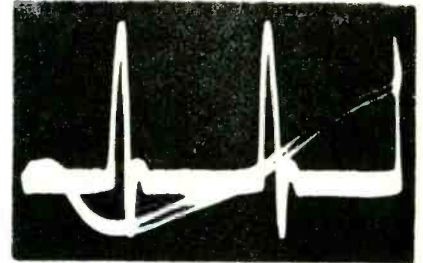

Fig. 8—Presence of spurious voltages thickens horizontal trace.
A. This situation, illustrated in Fig. 8, is caused by the presence of spurious